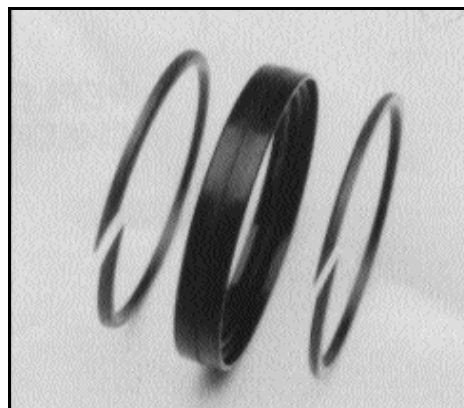

Figure 11. Plunger Seal.
6. The plunger seal is a 3 piece T-type seal. This utilizes an elastomer T-shaped seal with 2 plastic support rings (See Figure 11). If no wear is evident and plunger fits snugly into seal, renewal is not necessary. Seal may NOT be reused if it is removed from plunger body.
8. To replace seal, insert first plastic ring into bore. Note orientation of beveled ends. (See Figure 11). Plunger seals 1-1/4 in (31.7 mm), 1-3/4 in (44.5 mm), 2-3/8 in (60.3 mm), plastic rings contain a machined radius. This radius must face center of seal.